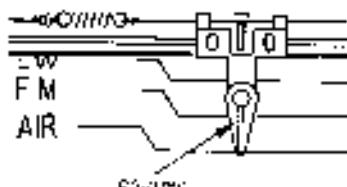

Fig. 2-6.
3. Set the dial drive so that it shows AIR band and that the tip of the pointer is on the line of AIR band as shown in Fig. 2-6.